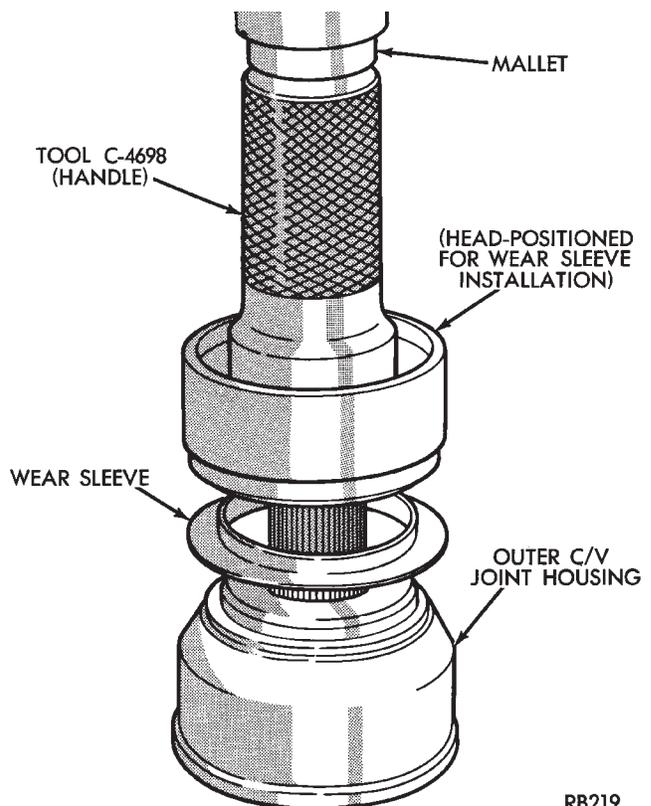

Fig. 1 Tool Set-Up for Wear Sleeve Installation
(1) Position new wear sleeve on joint housing machined ledge (Fig. 1). Assemble Installer, Special Tool C-4698 (Tool is provided with handle and dual purpose drive head for installing wear sleeve onto C/V joint housing and (head reversed) seal into knuckle). See KNUCKLE BEARING SEAL.
(2) See (Fig. 1). Assemble tool and install wear sleeve.